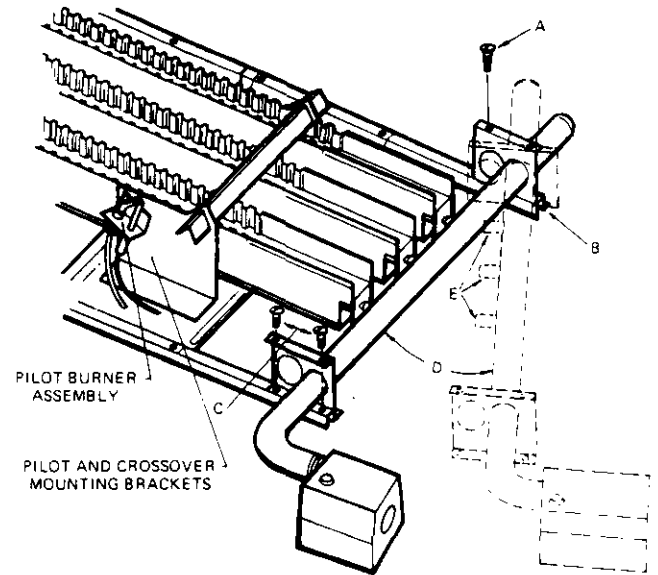

Figure 51 (4-029)
11. From side of burner rack opposite gas control, remove one sheet metal screw as shown in "A" in Figure 51. Save screw for reinstallation.
12. Loosen burner rack screw one turn, as shown in "B" in Figure 51.
13. From gas control side of burner rack, remove two screws from manifold bracket as shown in "C" in Figure 51. Save screws for reinstallation.
14. Pivot manifold away from burners as shown in "D" in Figure 51.
15. Remove original gas orifices, illustrated as "E" in Figure 51.
17. Slowly return manifold to its place by sliding each burner over its orifice. Replace two screws as shown in "C", Figure 51, and one screw as shown in "A", Figure 51.